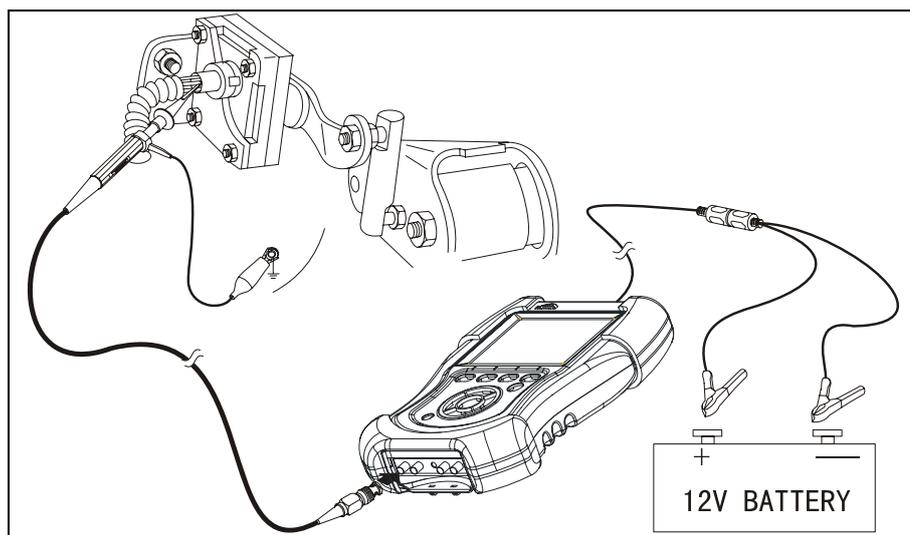

Fig. 3-13
When connecting KT600 to extension line for power supply, choose battery or cigar igniter as power supply according to the battery position of vehicle mode tested. All connecting diagrams in this users manual take power supply by battery as example. If choosing cigar igniter connector, confirm that cigar igniter has 12V battery voltage first. Connect test probe to Channel 1 (CH1 port), and then connect the small alligator clip on test probe to the negative of battery or grounding, pierce test probe into the signal line of ride height sensor. Connecting diagram is shown as Fig.3-13.
1. Connect equipment according to Fig.3-13, switch on power supply switch of KT600;